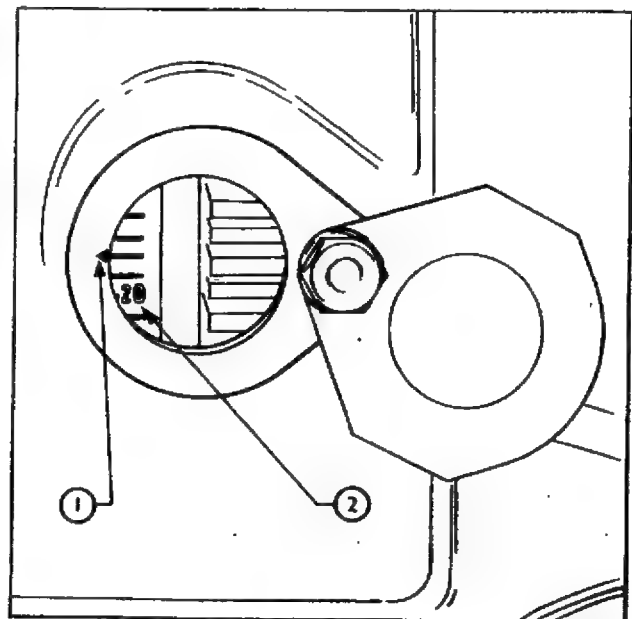

Fig. 75 1 Timing Mark
3. Set the engine timing marks to 9° B.T.D.C. Rotate the crankshaft until the timing mark (see Fig. 75) is in line with the 9° mark on the flywheel timing scale with No. 1 piston approaching the top of the compression stroke. When the engine is on the correct stroke a timing mark on the rear face of the camshaft gear will be visible in the injection pump mounting aperture.